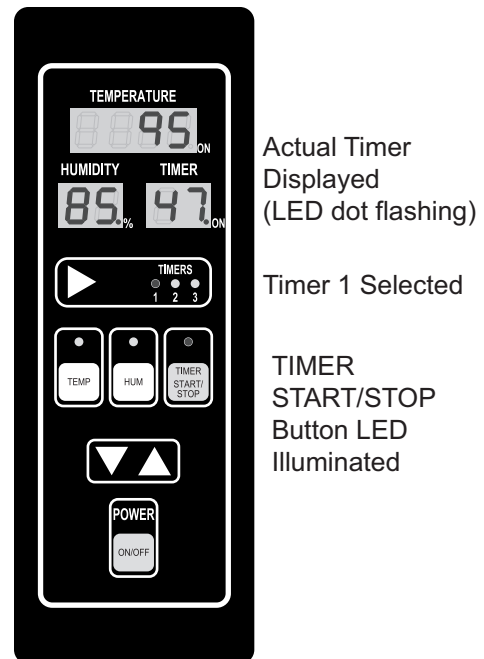

Fig. 6
1. Press the TIMER START/STOP button to select the timer function. The button indicator LED will illuminate (Fig. 6) and the timer display will show the current setting.